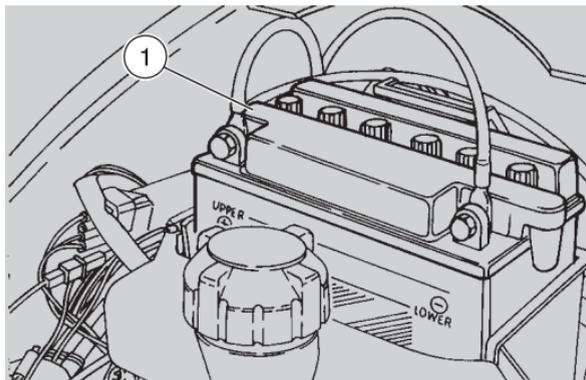

Fig. 51
BATTERY (Fig. 51)
- extract the battery (1-Fig. 51);